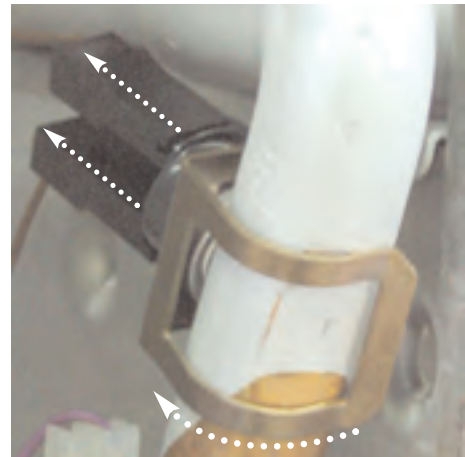

Fig. 93
2. Pull off the thermostat connections. Then remove the thermostat from the pipe by releasing its securing clip (see Fig. 93).